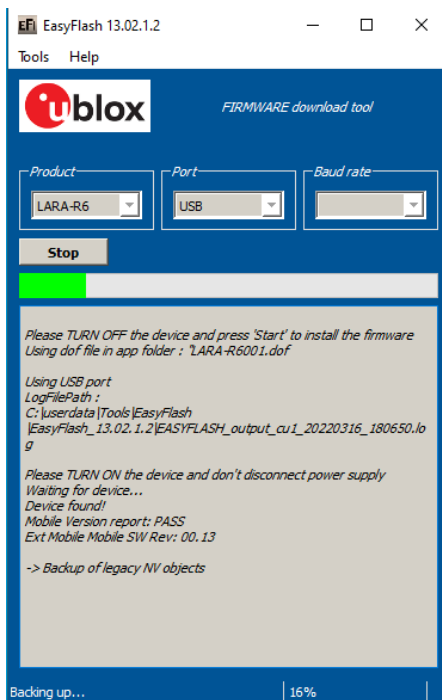
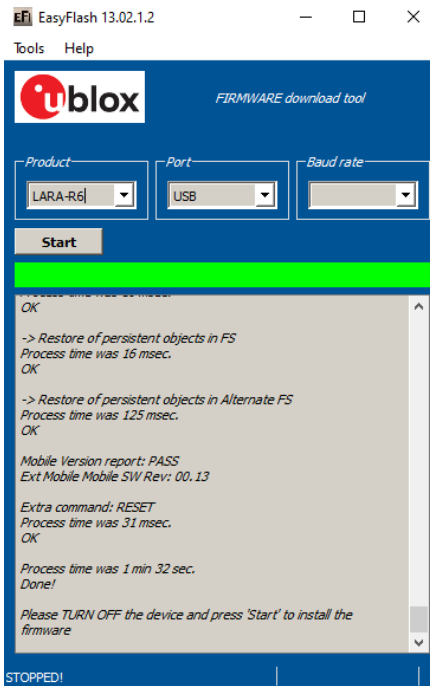

Figure 10: Flash process in progress
Figure 11: Flash process complete and successful
8. Flash will start, wait for flash to complete (see Figure 10 and Figure 11)